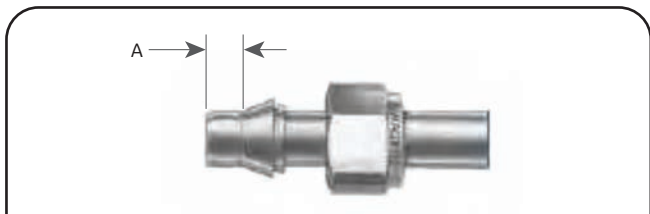

Figure 35: Tubing Dimensions
2. Install the .375" (9.53 mm) O.D. tubes (Refer to Table 12 for sizing of tubing) into the fittings for the inlet and dome ports. Make sure the tube ends are fully inserted before torquing. Begin torquing the fitting, about midway down, verify that Swagelok Gap Inspection Gauge (Swagelok P/N MS-IG-468) will go. Continue to torque down fitting until Swagelok Gap Inspection Gauge will not go. After torquing, remove to assure the ferrule is in good contact with the tubing. Refer to Table 11 and Figure 35 to determine if ferrule has seated itself properly. Reinstall the tubing.